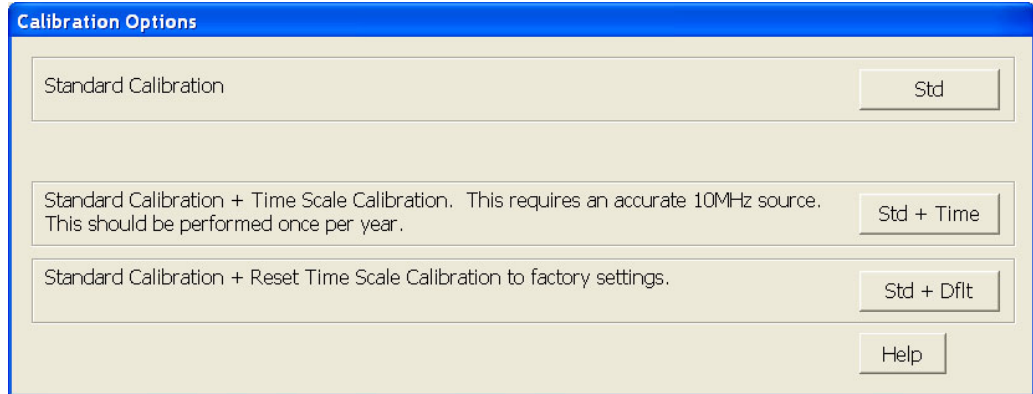

Figure 56 Time Scale Calibration Dialog box
- d* During the calibration of channel 1, if you are prompted to perform a Time Scale Calibration, as shown in Figure 56 below.